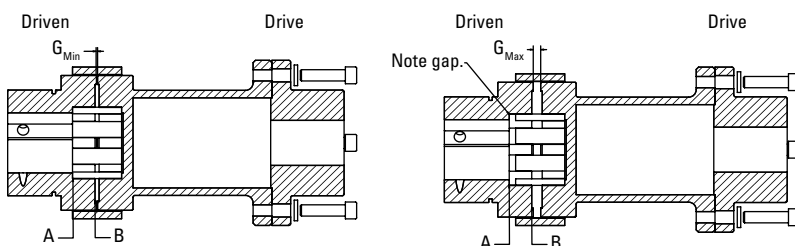

Fig. 8. Proper shaft-to-hub engagement.
1. The QUICK FLEX single-ended spacer coupling should be oriented with the flanged hub on the drive shaft and the coupling hub with insert on the driven shaft (fig. 8).
5. Install the coupling hub. It should be mounted so the end of the shaft is flush with surface "A" as shown in fig. 8. It is acceptable for the shaft to extend past "A" as long as it is not past the teeth shown as "B."